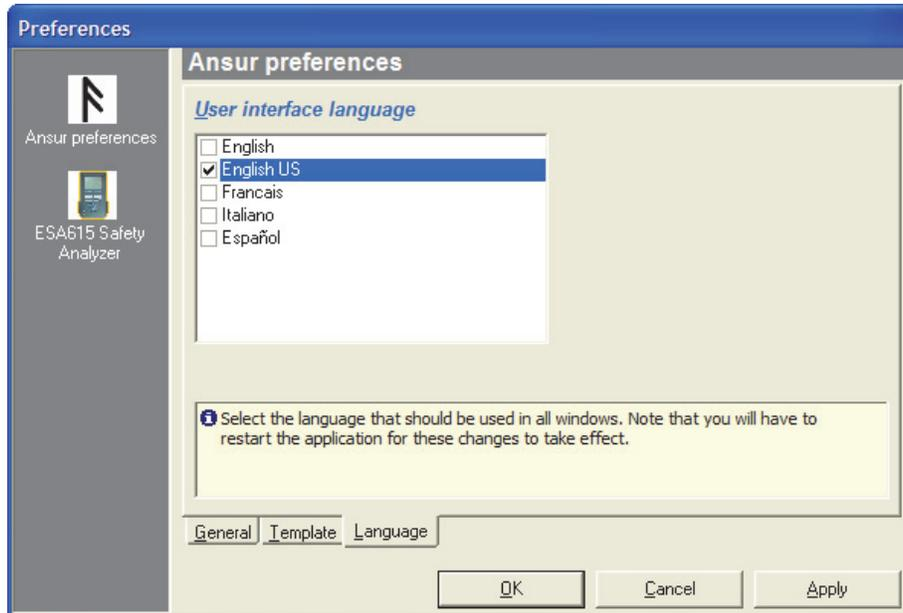

Figure 2-5. Set the User Interface Language
4. Click the checkbox adjacent to one of the languages in the list. Figure 2-5 shows **English US** is set for the user interface.